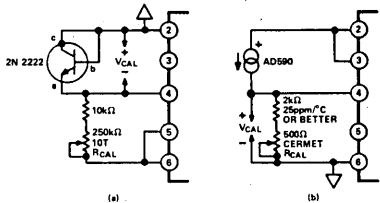

Figure 2. Sensor Connections and Calibration
Connections are shown for both sensor types in Figure 2. Resistor  $R_{CAL}$  is the calibration adjustment point. It is used only to adjust for unit-to-unit variations in the sensors. All other adjustments have been made internal to the 2B56.
**Calibration:** Only one adjustment is necessary to get proper operation of the 2B56. This is shown in Figure 2 for both sensor types.  $R_{CAL}$  is adjusted to obtain the correct voltage at  $V_{CAL}$  for the appropriate sensor type and temperature, as listed in Table IV. Use a high-impedance voltmeter to measure  $V_{CAL}$  to prevent loading errors.